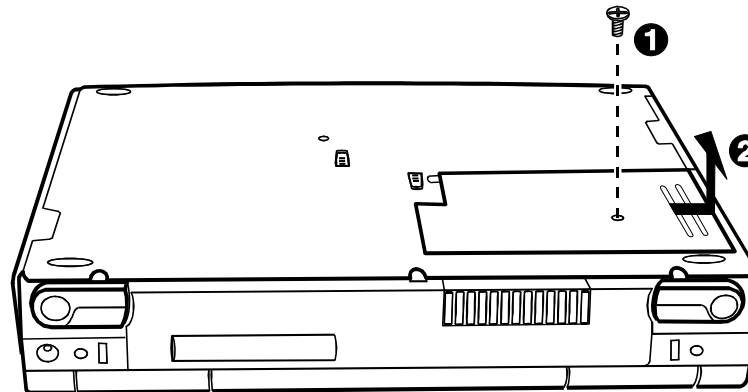

FIGURE 7-13. REMOVING THE CPU AND FAX/MODEM/VOICE CARD COMPARTMENT COVER
3. REMOVE THE CPU AND FAX/MODEM/VOICE CARD COMPARTMENT COVER BY REMOVING ONE SCREW AND SLIDING THE COVER TOWARD THE RIGHT TO OPEN THE COVER. (SEE FIGURE 7-13 EARLIER).